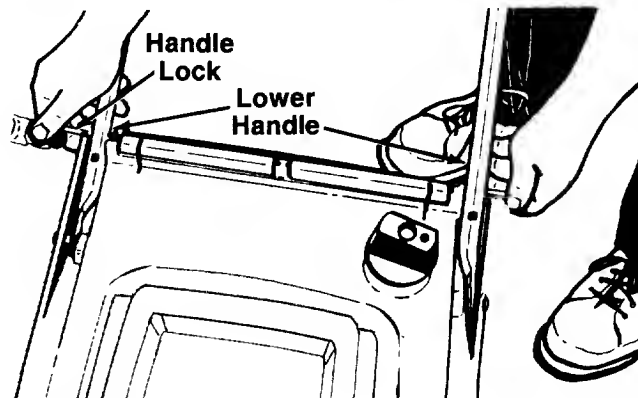

FIGURE 10.
- Pull outward on the handle locks on each side of the lower handle, and lift the sides of the lower handle past the locks as shown in figure 10. Fold the lower handle forward.